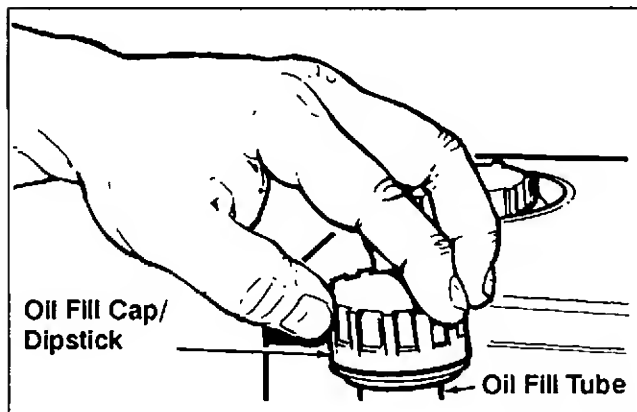

Figure 6-2. Checking Oil Level—CH5 Engines With Extended Oil Fill Tube/Dipstick.
3. Unthread and remove the oil fill cap/dipstick; wipe oil off. Reinsert the dipstick into the tube and rest the oil fill cap on the tube. Do not thread the cap onto the tube. See Figure 6-2.